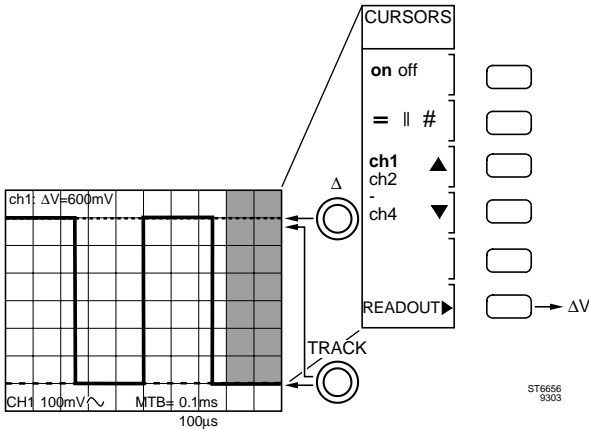

Figure 3.10
- Use the Δ control to position the dotted line exactly on the top level of the waveform as shown in figure 3.10.